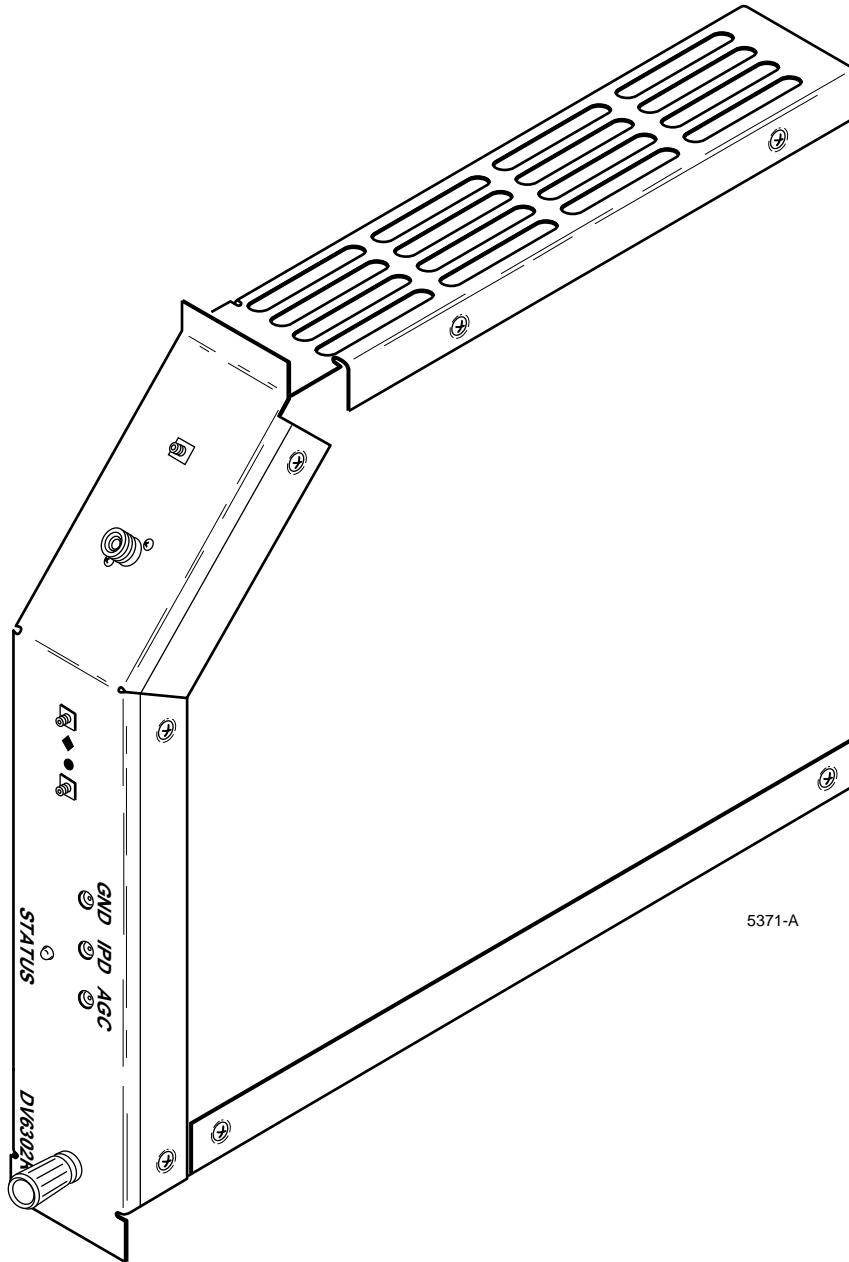

Figure 512-1. DV6000-System Optical Receiver (DV6302RCQ)
9. Use the digital voltmeter to measure the voltage between the receiver's GND and AGC test points. See **Figure 512-1**. The reading should be between +1 and +2 volts.